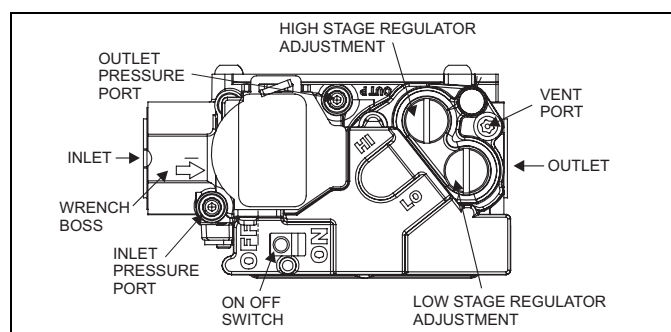

FIGURE 2: Two Stage Gas Valve
1. Refer to Figure 2 for location of pressure regulator adjustment cap and adjustment screws on main gas valve.